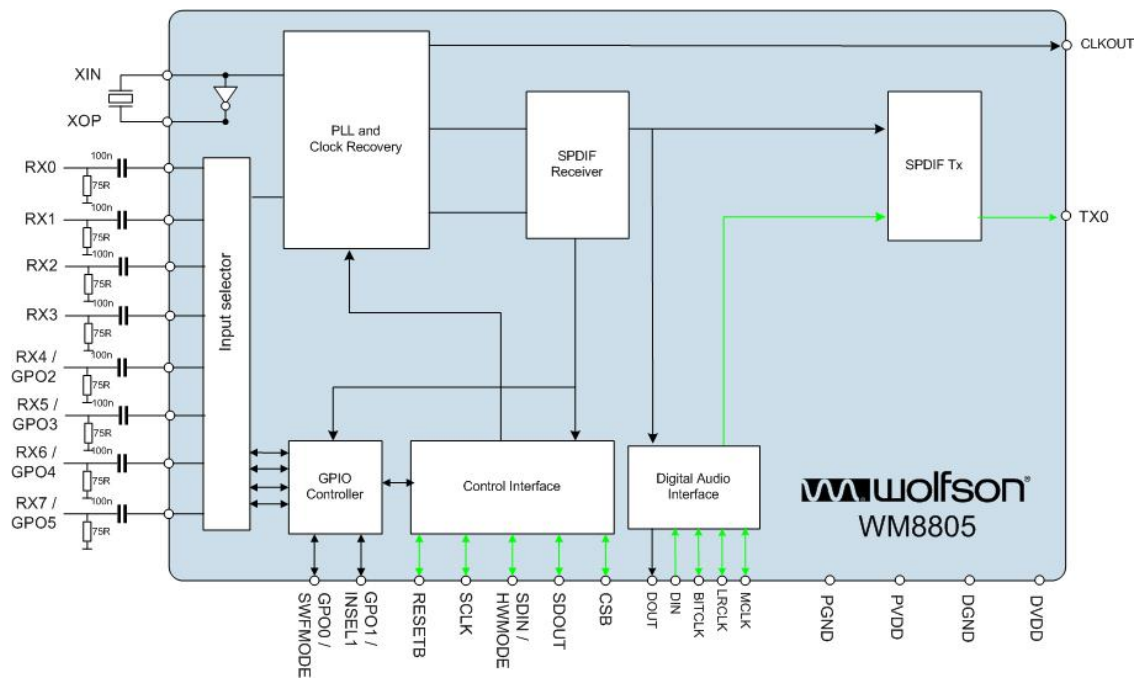

Figure 5 Audio Interface to TX0 Block Diagram
- Figure 5 illustrates the data path.